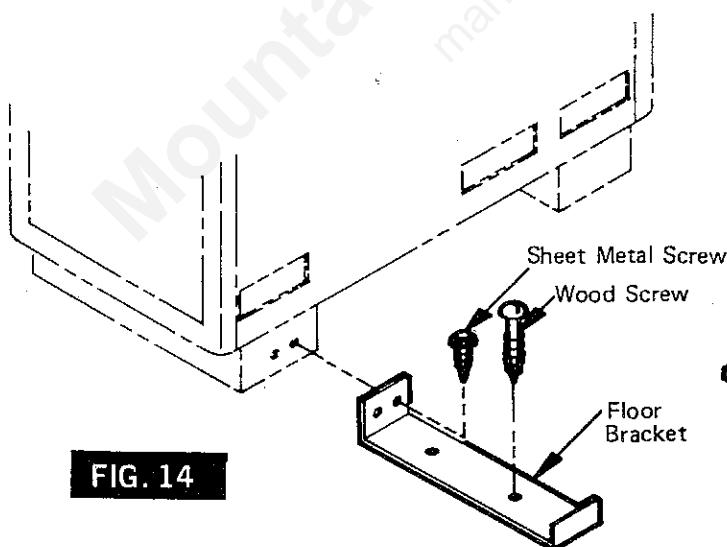

FIG. 14
2. Attach brackets to the heater using the sheet metal screws provided. Then attach the brackets to the floor using the wood screws provided. See Fig. 14 and 15.